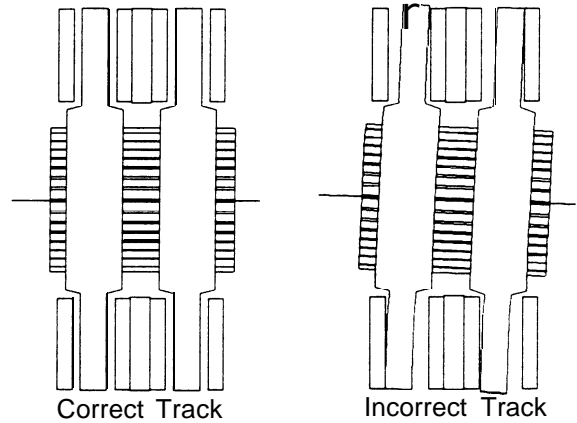

Fig. 4
Proper alignment is necessary to assure that the discs (4) will track properly. Improper alignment will result in excessive wear to the friction discs (5), discs (4) and gear (22). See Figure 4.
Proper alignment is necessary to assure that the discs will track properly. Improper alignment will result in excessive wear to the friction discs (5), discs (4) and gear (22). See Figure 4.